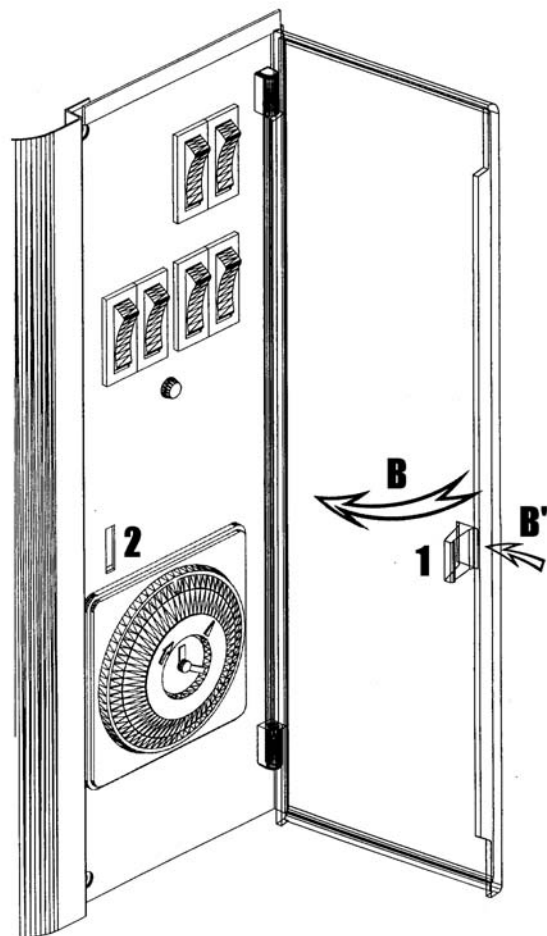

Figure 4
To close the cover (arrow **B'**), push on the front (arrow **B**) until the clear plastic part (1) snaps closed (Fig. 4).